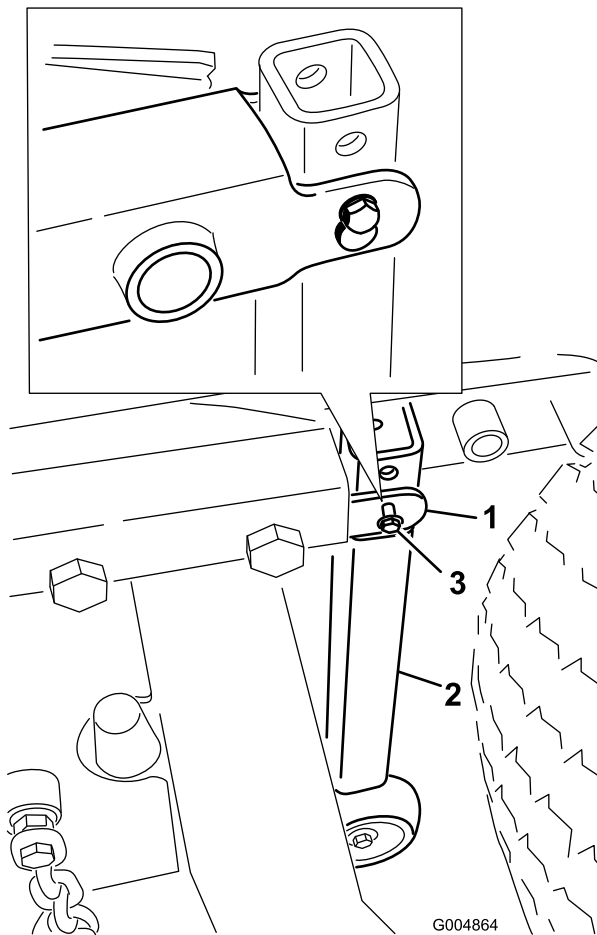

Figure 33
2. Install the vertical tube support assembly to each rear corner of the deck frame with a clevis pin and a 1/4" self-tapping screw (Figure 33).